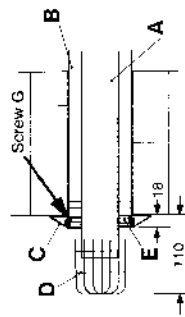

Fig. 17
Separate the two tubes by removing screw G (fig 17).
5.5.7 Ensure inner and outer terminal tubes are firmly fitted together with screw G (fig 17). Push the terminal tubes through the wall until the face of the outer tube protrudes 18mm from the face of the wall (fig 17). The terminal grill (D) will then protrude 110mm from the wall face.
NOTE: The two tubes must be separated by removing screw G fig 17 before cutting.
- 5.5.15** Check also that the outer end of the flue projects as indicated in fig 17.
- 5.5.18** Seal the peripheral gap around the outer tube with cement or mastic and slip the cosmetic flexible plastic collar (fig 17) item C) into groove on the pipe. This operation can only be carried out with external access. Seal the internal wall face around the air duct.